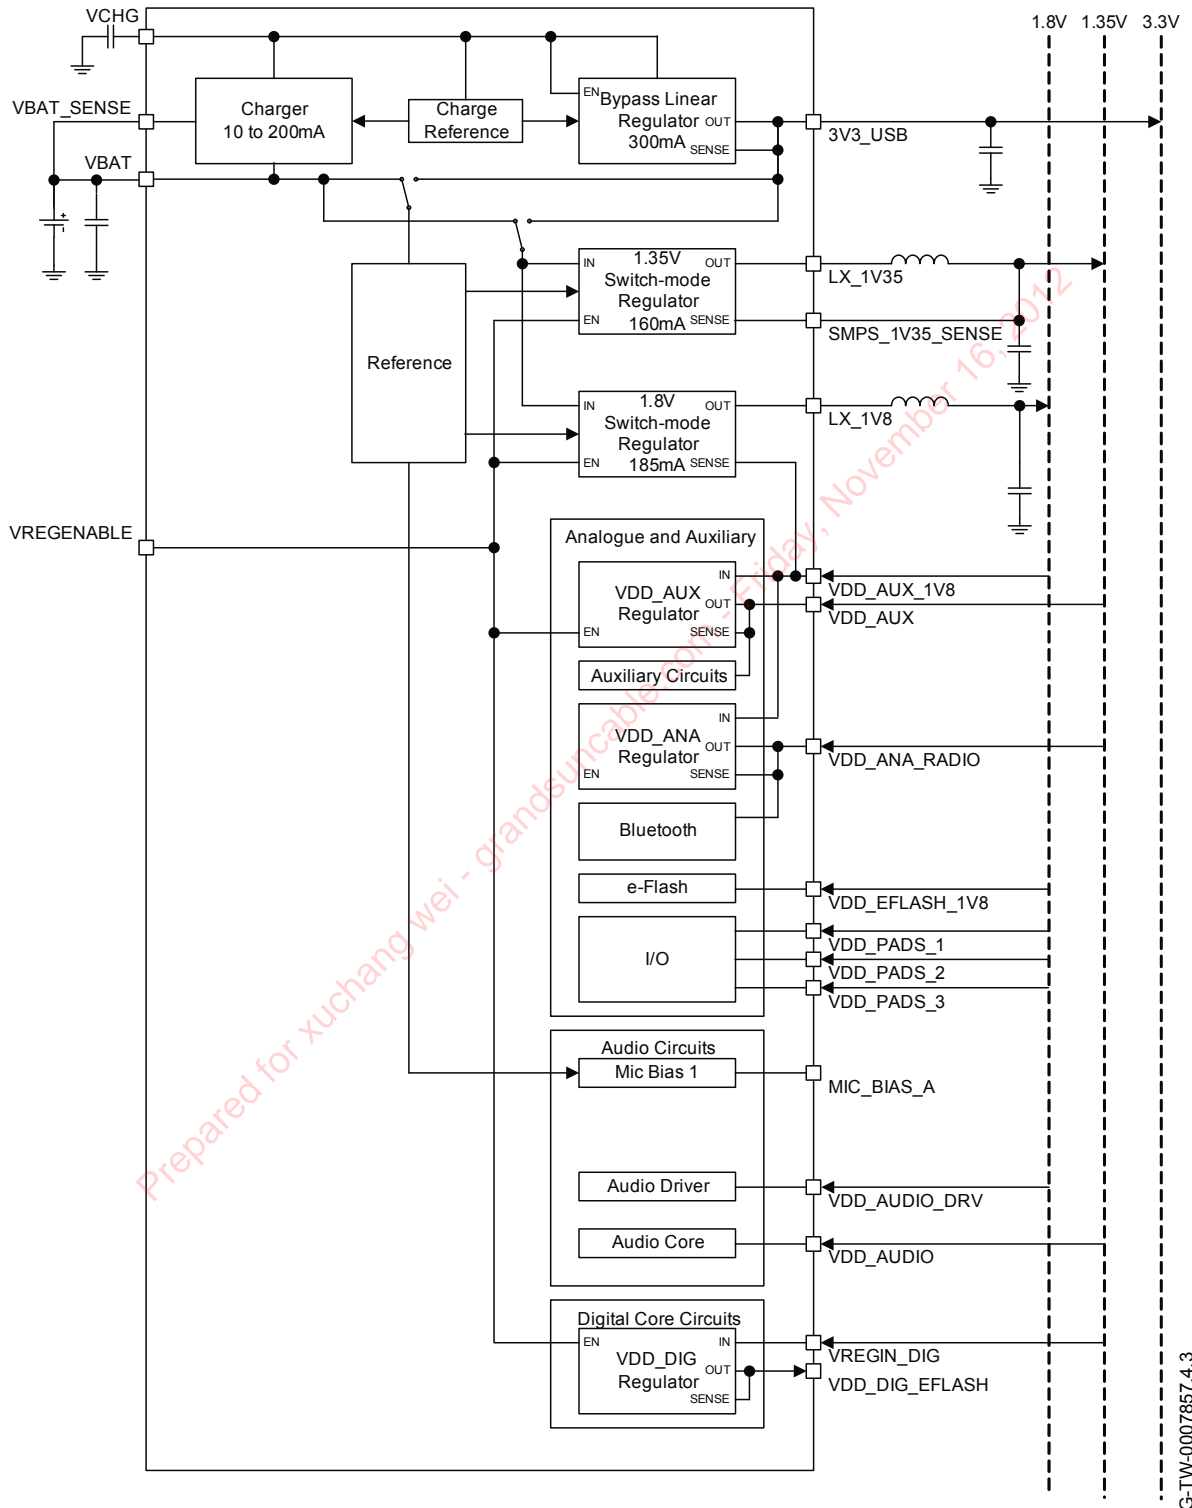

Figure 11.1: 1.80V and 1.35V Dual-supply Switch-mode System Configuration
- A 1.80V and 1.35V dual-supply rail system using the 1.80V and 1.35V switch-mode regulators, see Figure 11.1. This is the default power control and regulation configuration for the CSR8670 WLCSP.